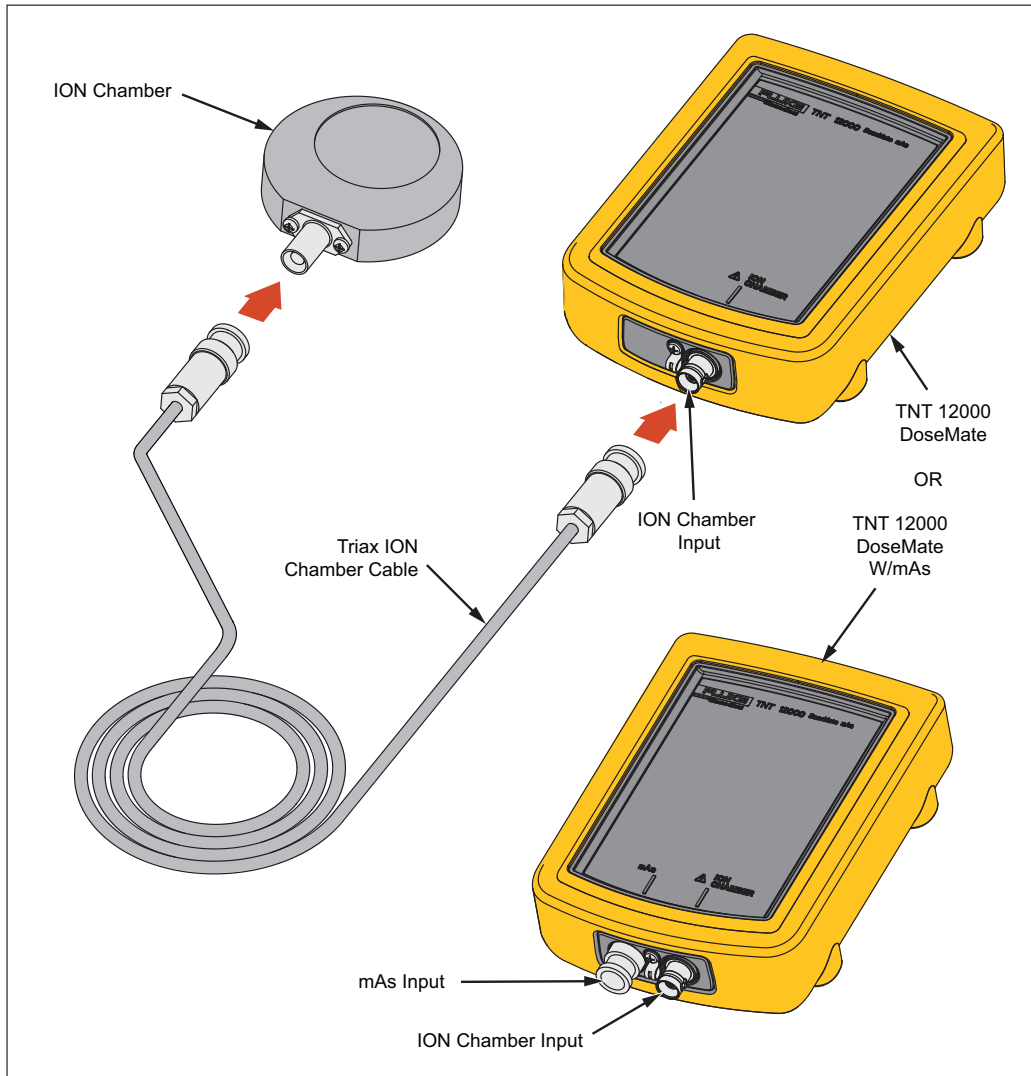

Figure 2-8. Ion Chamber Connection to Dosimeter
2. Connect one end of the Triaxial ion chamber cable to the ion chamber connector as shown in Figure 2-8.